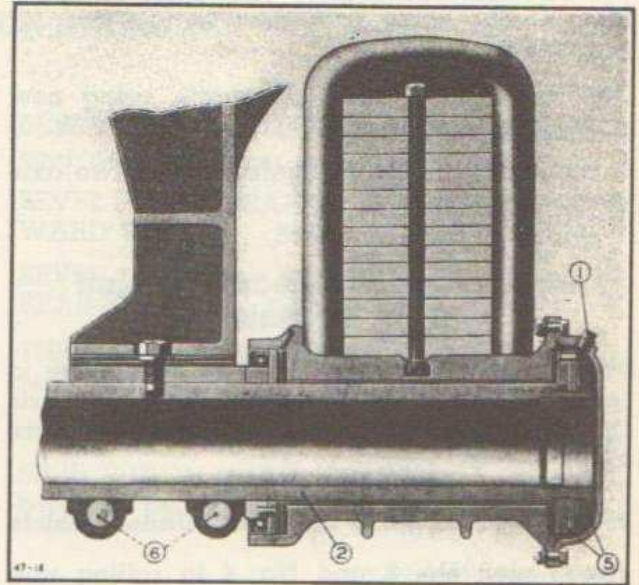

Fig. 65—Section Thru Trunnion, Springs, etc.
To assemble trunnion, first place trunnion tube on a stand or on horses, then put leather grease seal in place on collar at trunnion tube clamp, place steel washer on pin extending from collar and place brass washer on pin in trunnion journal. Put some oil or grease on washers so that they will stick against collar and trunnion and not slip off pins when trunnion is slid on tube. Back up grease seal so that it will be forced into recess in journal when it is slid into place, which is the next step. Put washers in place on outside end of trunnion, first the steel and then the brass one. Tighten circular adjusting nut (5) until it is tight, then back it off  $1/6$  turn. Replace lock washer, lock nut, gasket and hub cap. (See Fig. 65).